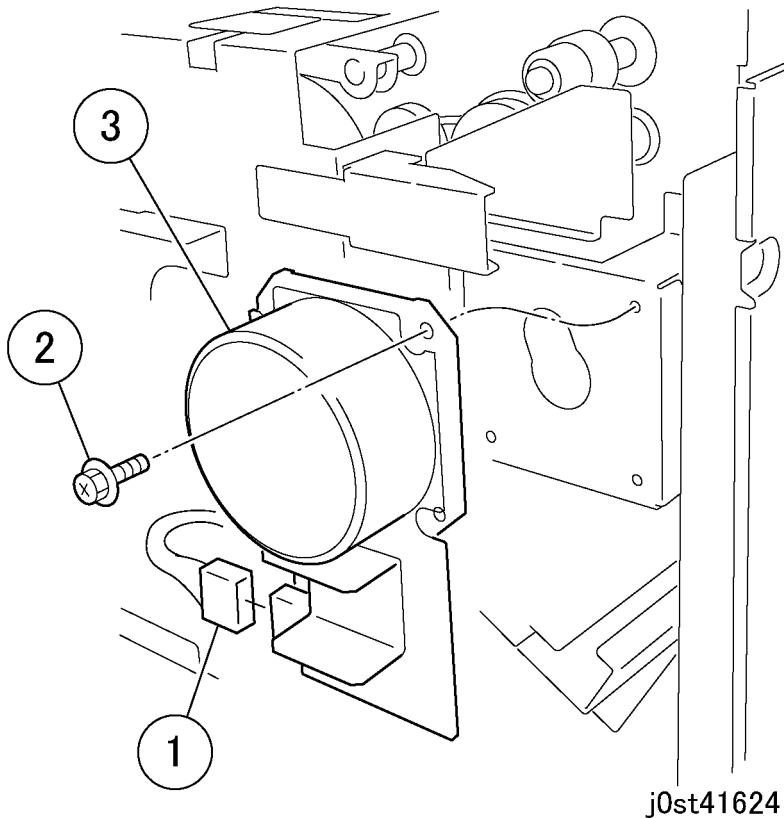

Figure 1 Removing the Finisher Drive Motor
2. Remove the Finisher Drive Motor. (Figure 1)